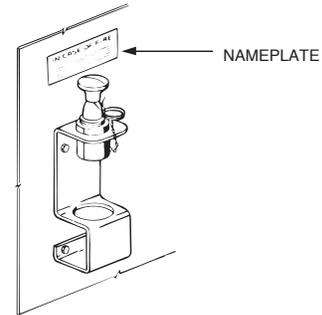

FIGURE 6-22
5. Affix the appropriate operating nameplate adjacent to the manual actuator so that it is visible to attending personnel. See Figure 6-22.
6. Make certain ring pin is inserted through the RED actuator button to ensure safe cartridge installation. See Figure 6-22.